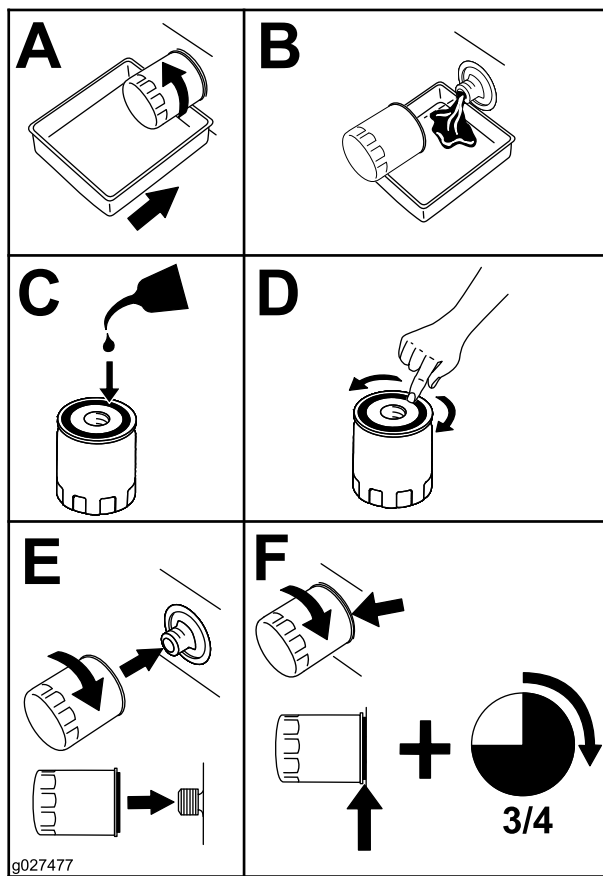

Figure 36
5. Change the engine-oil filter (Figure 36).